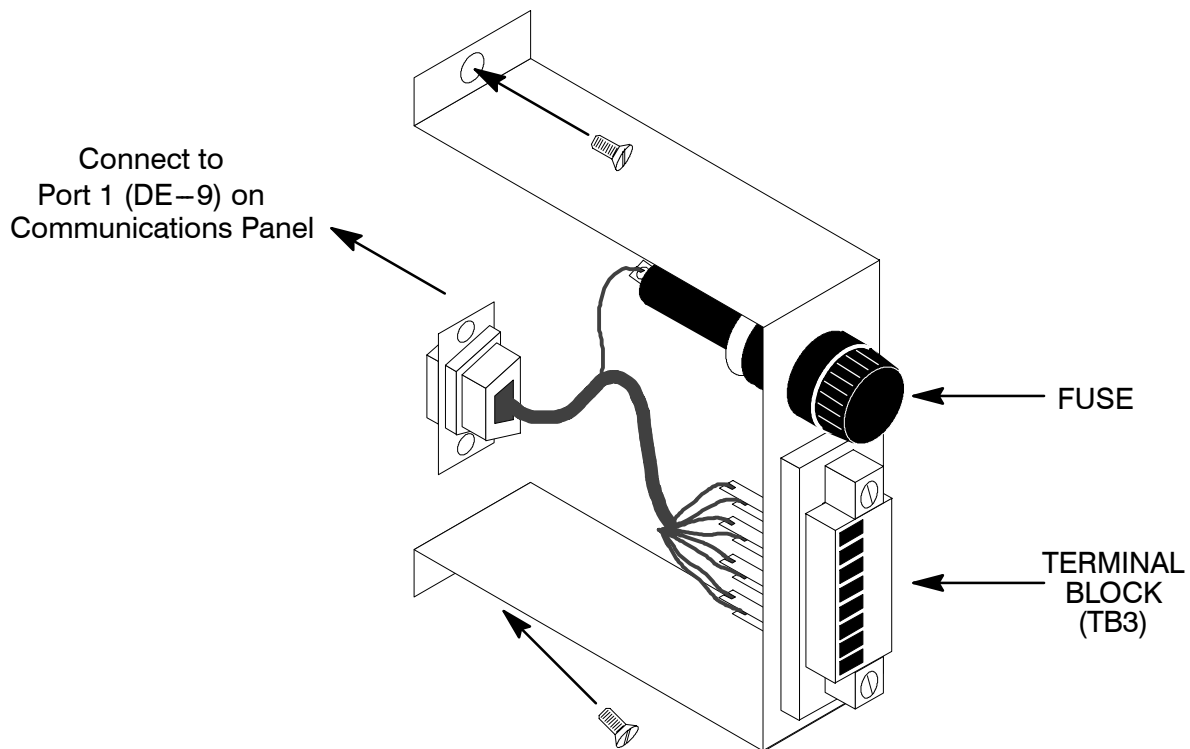

Figure 21. Terminal Block Bracket
3. In the spare parts kit locate the RMP Adapter Cable assembly (see Figure 21).